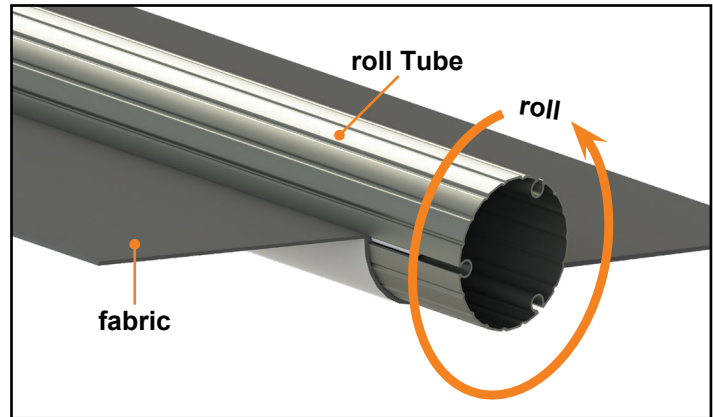

Fig.17
5. Roll the fabric onto the roll tube (Fig.17). Make sure the fabric stays snug and flat to the roll tube with the printed side facing away.